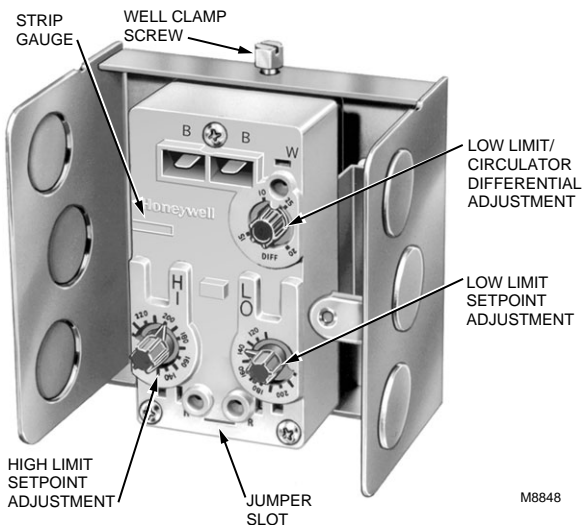

Fig. 4. L6081A with cover removed to show adjustments.
7. Loosen the wallclamp screw three or four turns., move the screw in and out and not how it moves the well clamp. See Fig. 4. Loosen the screw enough so that when the screw is pushed inward, the T-shaped clamp guide is at the far end of the slot in the case.
Use the following procedure when connecting wires to the B-B tab terminals (Fig. 4):
Use the following procedures when connecting wires to the R-R terminals (Fig. 4):
When using the controller field addable jumper (Fig. 4), connect terminals R-R. When the jumper is added, make sure that the two prongs of the jumper face the center of the controller.
With the cover off, set the high limit adjustment at the temperature desired but *not* higher than recommended by the boiler manufacturer (Fig. 4).